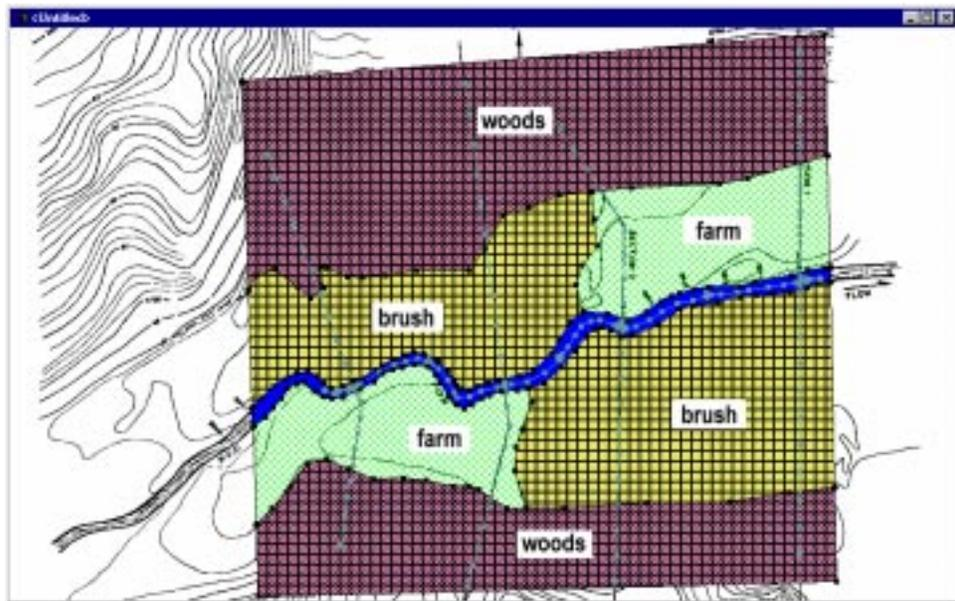

Figure 15-5 Material type boundaries.
6. Repeat this process for each of the material zones, assigning the materials as shown in Figure 15-5. Create new materials as required.